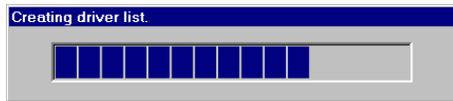
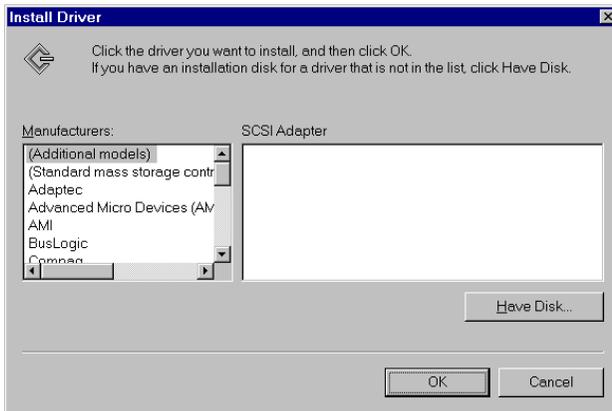

Figure 3-5. Creating Driver List
Figure 3-6. Install Driver
6. The Creating driver list progress bar is displayed briefly (Figure 3-5), and then the Install Driver box is displayed (Figure 3-6).